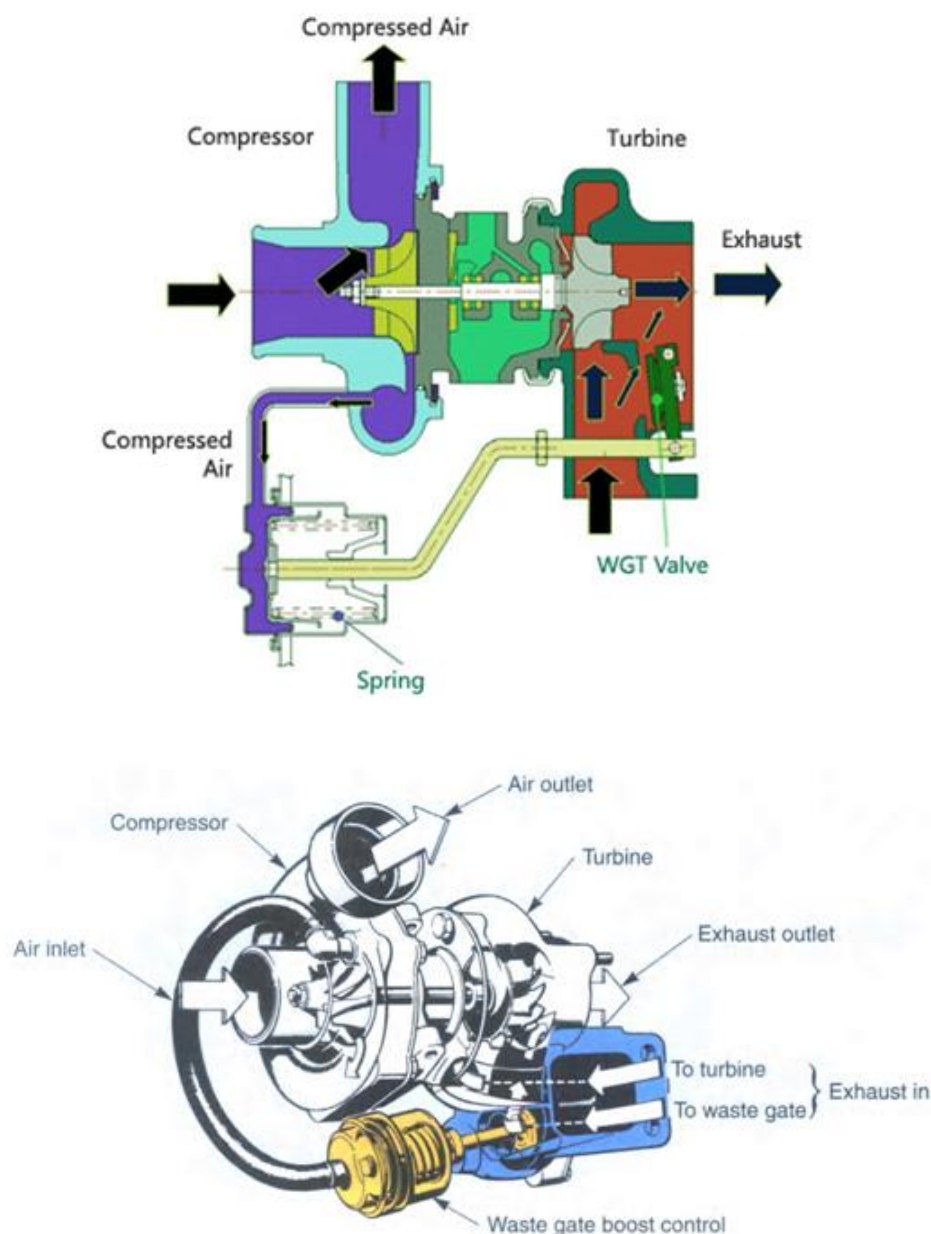

Fig. 9.1
- This device, commonly referred to as a waste gate (WGT valve) (as shown in Fig 9.1), prevents the turbocharger from over-speeding and subsequently over-boosting and damaging the engine.
- Therefore it is essential that the turbocharger installed be matched to the engine and performance requirements. Fig 9.1 shows a typical performance comparison between a standard turbocharger and a turbocharger fitted with a waste gate.